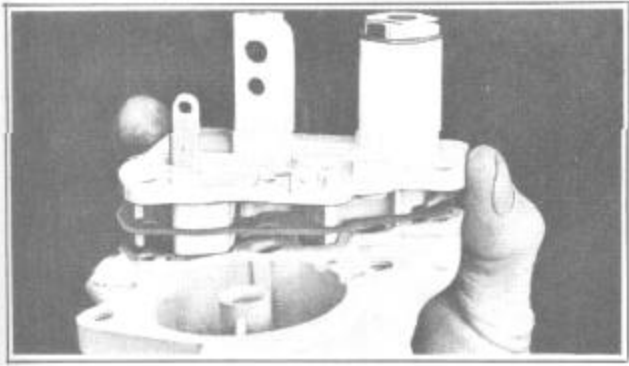

FIGURE 42
16. Install bowl cover assembly, Figure 42. Pull screws down evenly. Install idle passage plug and gasket assembly (center of bowl cover.)